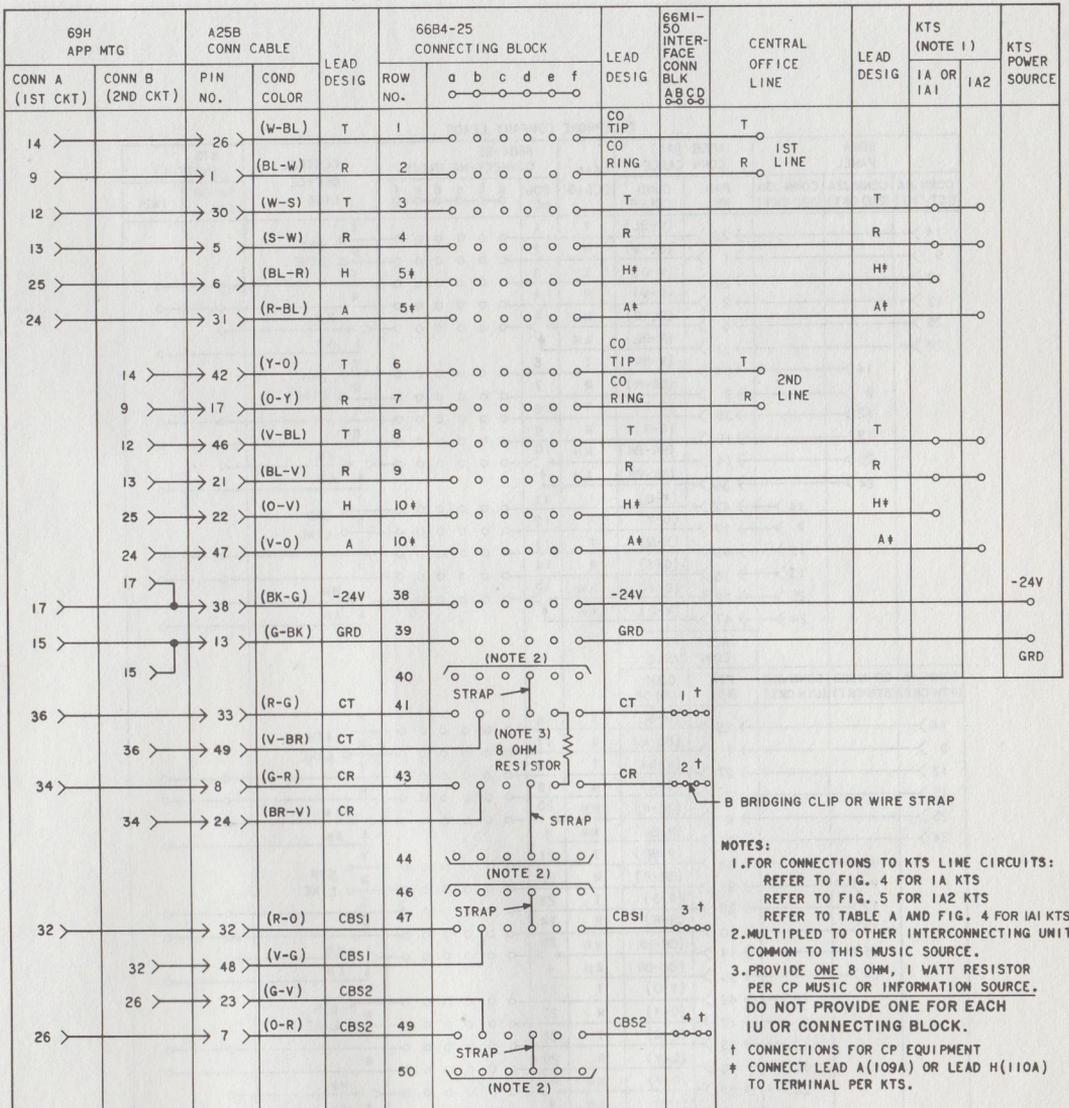

Fig. 6—Connections for Voice Connecting Arrangement LVH Using 69H Apparatus Mounting
**6.01** ◆Provide straps on the 66B4-25 connecting block(s) between terminals 40 and 41, 43 and 44, 46 and 47, and 49 and 50 as shown in Fig. 6 and 7.◆
**6.02** Place a KS-14603, L3A, 8-1/4 ohm resistor or 8-ohm 1-watt resistor (furnished locally) across CT and CR leads to CPE at the 66B4-25 connecting block (see Fig. 6 and 7). The resistor should have pigtailed no larger than 19 gauge to connect in the quick-connect clip-type terminals.
**6.03** For connection information when using the 69H apparatus mounting, refer to Fig. 6, 8, and Table A.